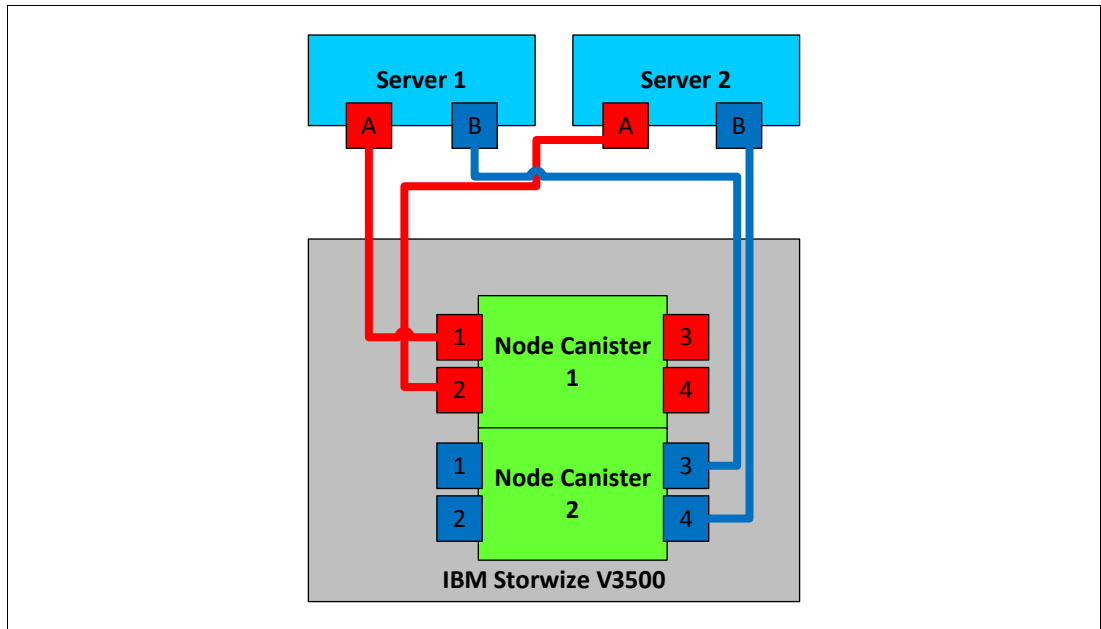

Figure 2-2 Direct attach server configuration
IBM Storwize V3500 can be used with direct attach Fibre Channel (FC) server configuration. The recommended configuration for direct attachment is to have at least one FC cable from the server that is connected to each node of the IBM Storwize V3500. This configuration provides redundancy if one of the nodes goes offline, as shown in Figure 2-2.